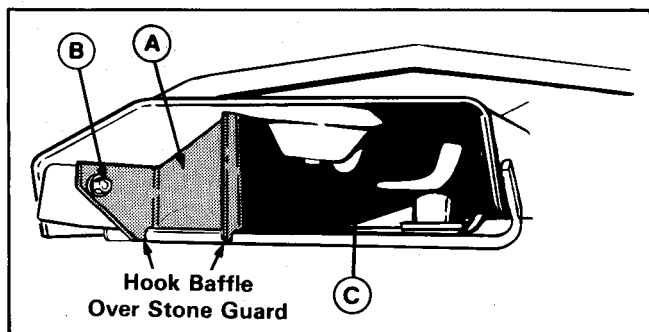

Figure 17.
12. Install the new baffle (A, figure 17) in deck on stone guard using existing hardware. Hardware may be installed with nut to inside or nut to outside.